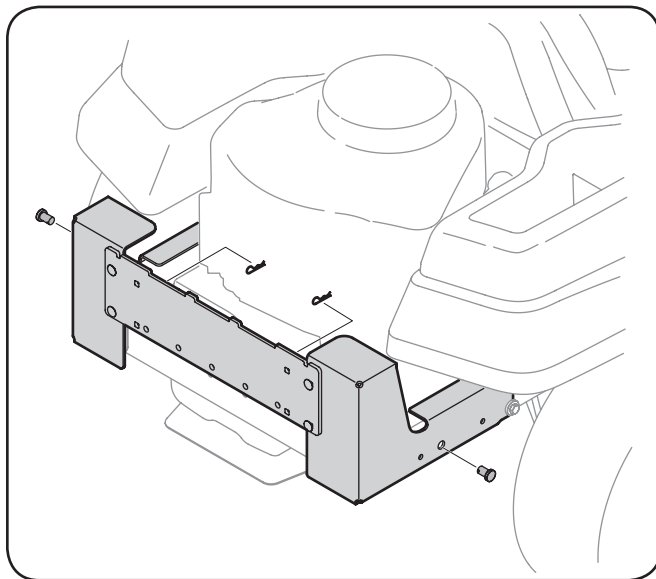

Figure 4-5
2. Secure the mounting bracket assembly to the tractor using two 711-0332 clevis pins and 714-04023 cotter pins from hardware pack 689-00095. See Fig. 4-5.